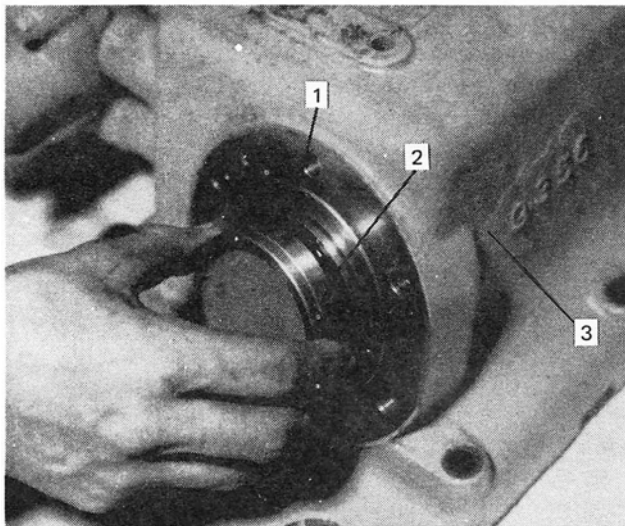

Figure 10
2. Push the piston out through the head end of the cylinder using a wooden handle, Figure 10.